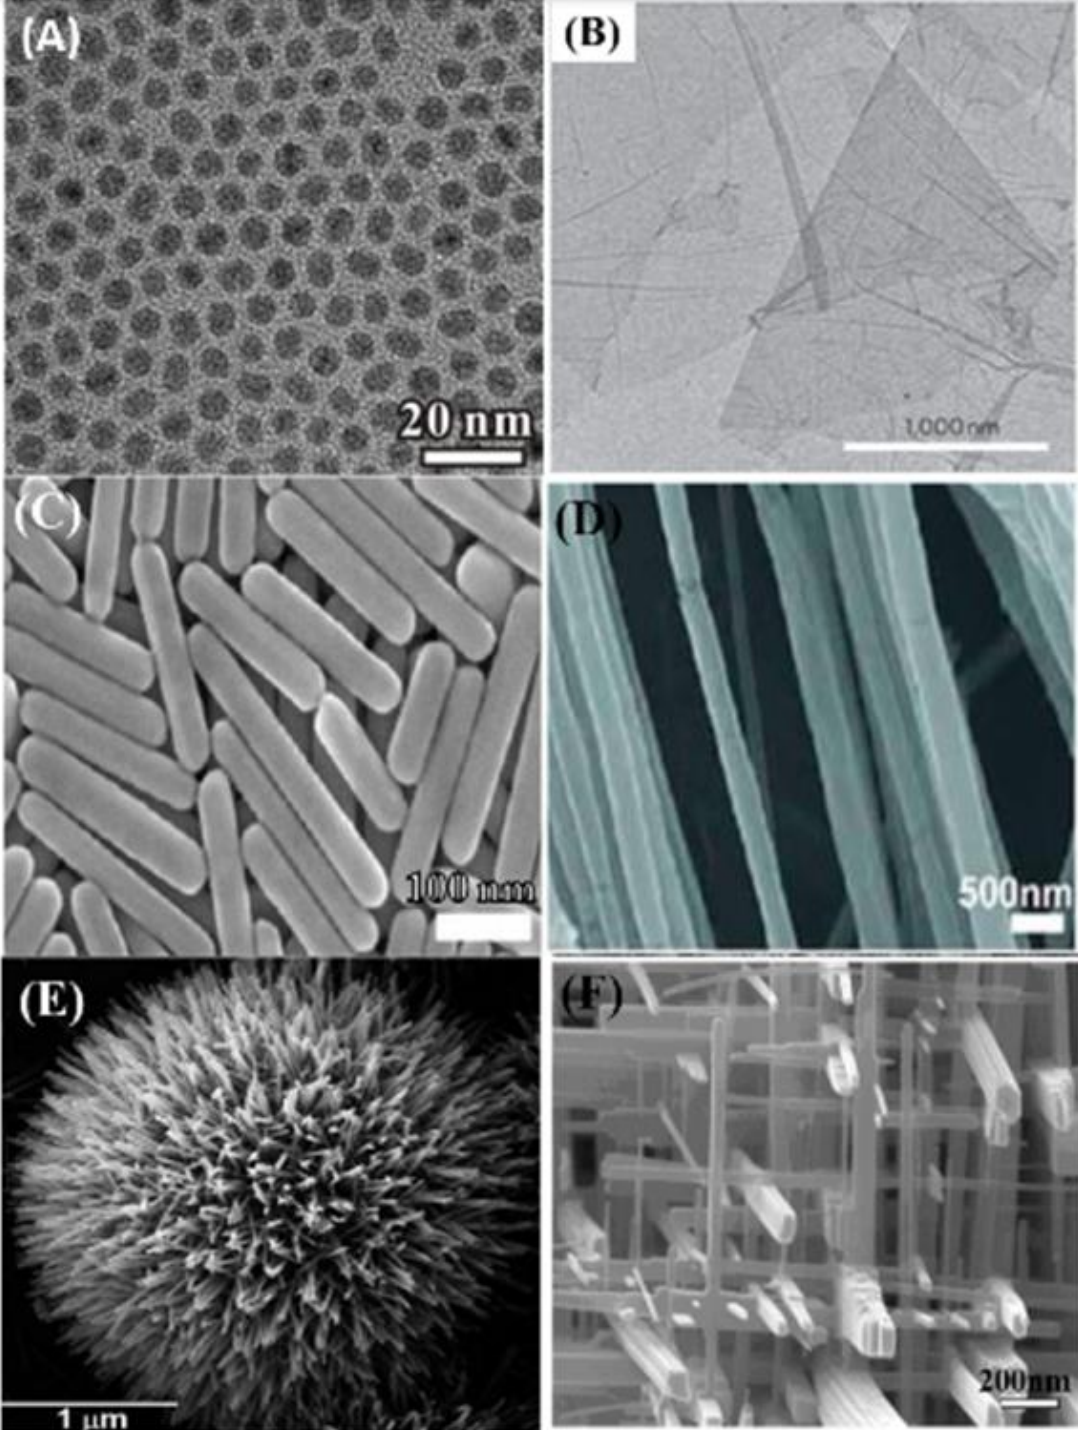

Figure 1: Nanomaterials with different morphologies:
- ▶ Composite NMs are multi-phase NPs and NSMs with one phase on the nanoscale dimension that can either combine NPs with other NPs or NPs combined with larger or with bulk-type materials (e.g., hybrid nanofibers) or more complicated structures, such as a metal-organic frameworks. The composites may be any combinations of carbon-based, metal-based, or organic-based NMs with any form of metal, ceramic, or polymer bulk materials. NMs are synthesized in different morphologies as mentioned in Figure 1 depending on the required properties for the desired application.